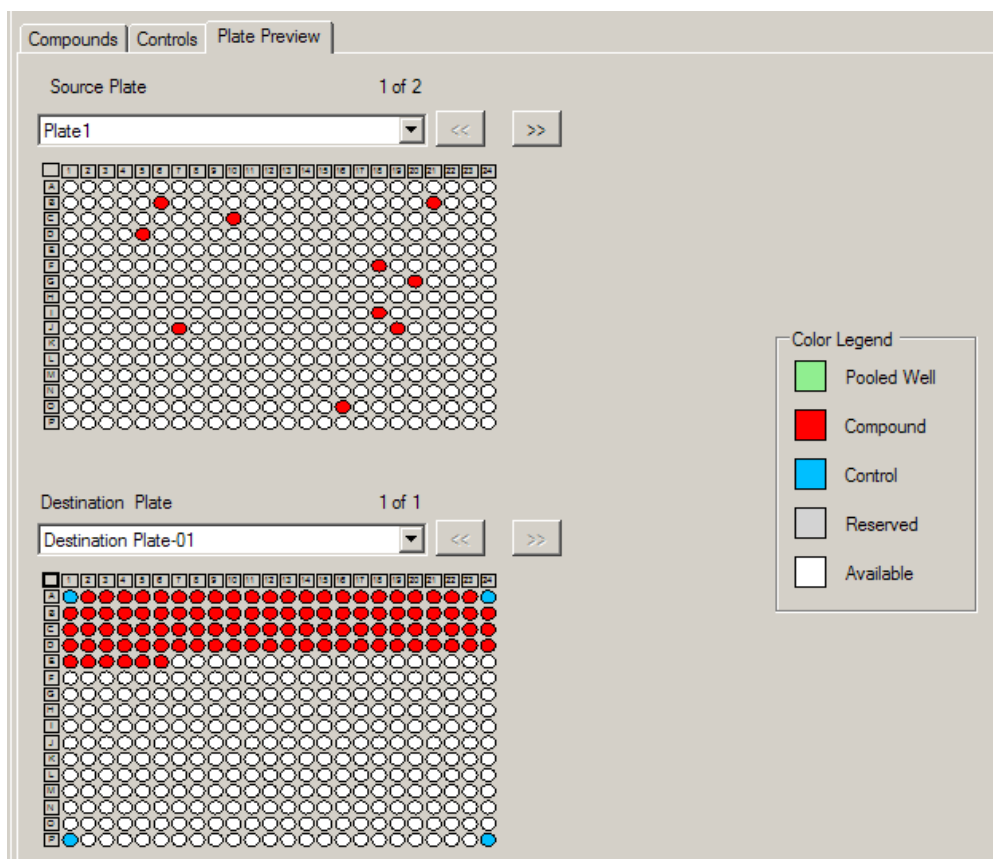

Figure 3-24: Plate Preview
- a. Click the **Plate Preview** tab to display the layout for the source and destination plates. The color legend helps you identify the components on the plate maps. See Figure 3-24.